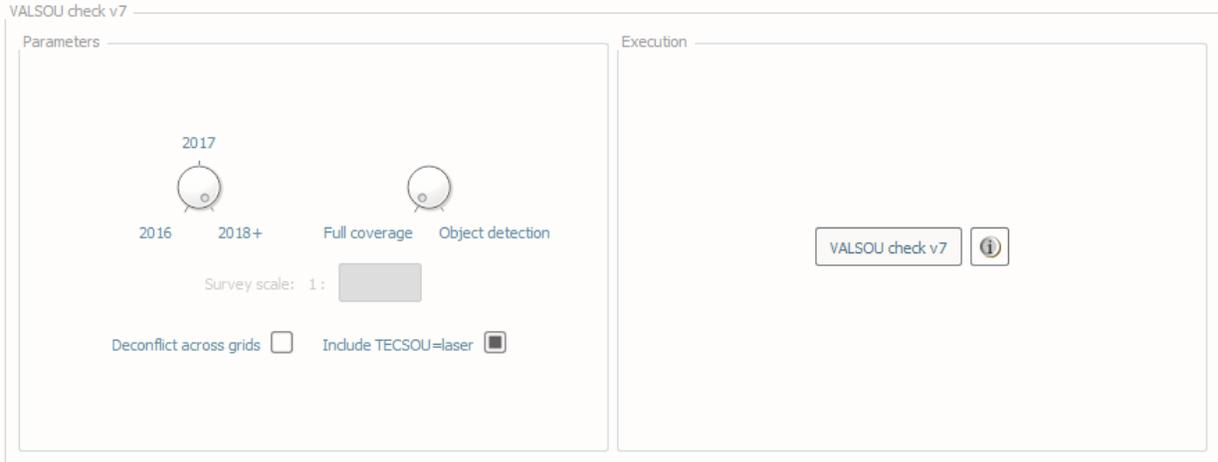

Fig. 2.49: The VALSOU check tab.
- Select the **VALSOU check** tab (Fig. 2.49) on the bottom of the QC Tools interface.